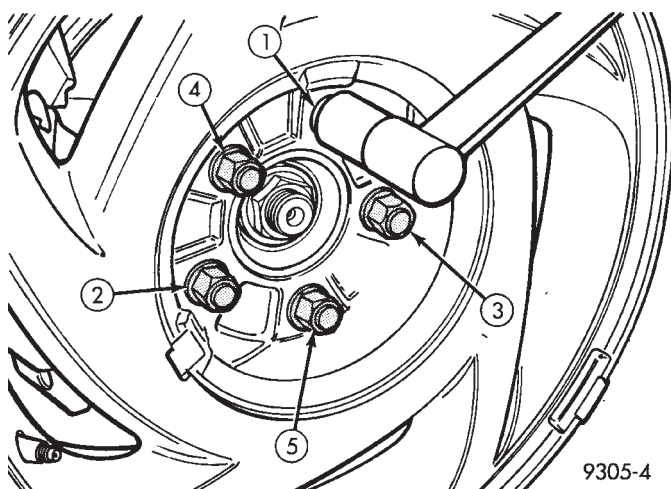

Fig. 25 Tightening Wheel Nuts
(22) Install and tighten wheel mounting stud nuts in proper sequence (Fig. 25) until all nuts are torqued to half specification. Then repeat the tightening sequence to the full specified torque of 129 N•m (95 ft. lbs.).